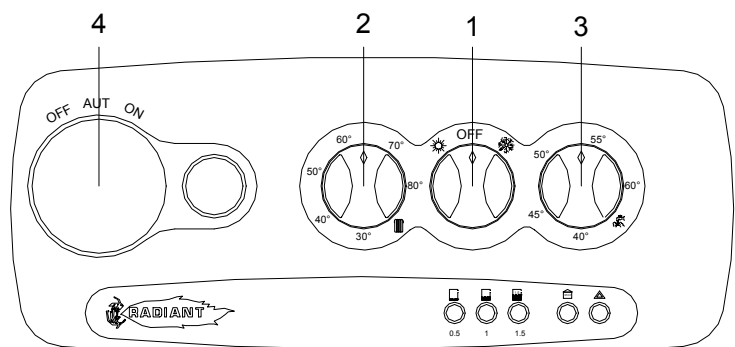

Fig. 1
- ⇒ **The anti-freeze system will come into operation only if the boiler is in the «ON» position (with selector switch 1 in fig. 1 turned to the summer or winter position) and the gas supply turned on. The manufacturer can accept no responsibility for damage to the boiler caused by lack of observation of these requirements.**
LEGEND (see fig. 1)
- Turn selector switch 1 to the ❄ symbol denoting winter (see fig.1).
The heating temperature is regulated by turning knob 2 (see fig.1) to the temperature required, chosen from the different values printed around the selector.
The hot water temperature is regulated by turning knob 3 (see fig.1) to the temperature required, chosen from the different values printed around the selector.
- set Main Switch (1) to OFF position (see fig.1 page I)
- set Main Switch (1) either to summer or winter position (see fig. 1 page I). The boiler comes into operation.